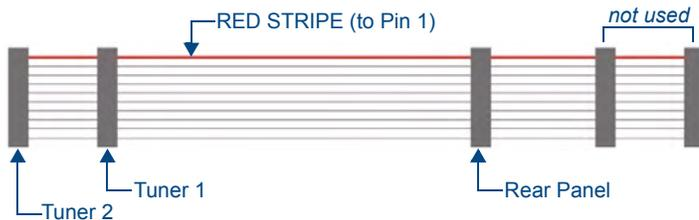
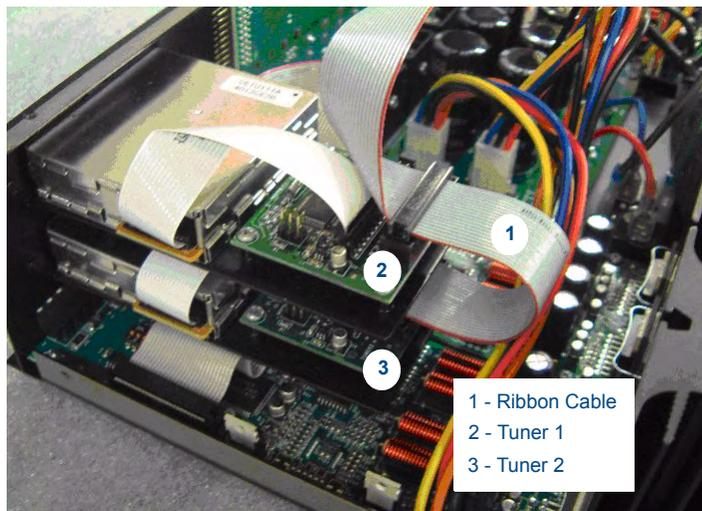

FIG. 2 Tuner Ribbon Cable
FIG. 6 Dual Tuner Cable Hook-Up
4. Place the Rear Panel connector at the end of the ribbon cable (FIG. 2) on the rear board pin-bus, keeping the red stripe at the top.
4. Connect the **Tuner 2** connector on the ribbon cable to Tuner 2 (see FIG. 2).
6. Connect the **Tuner 1** connector on the ribbon cable to Tuner 1 (see FIG. 2).
7. Connect the **Rear Panel** connector on the ribbon cable to the rear board pin-bus with the red stripe at the top (see FIG. 2). The ribbon cable should be connected as shown in FIG. 6 and connected to the Rear Panel as shown in FIG. 4.